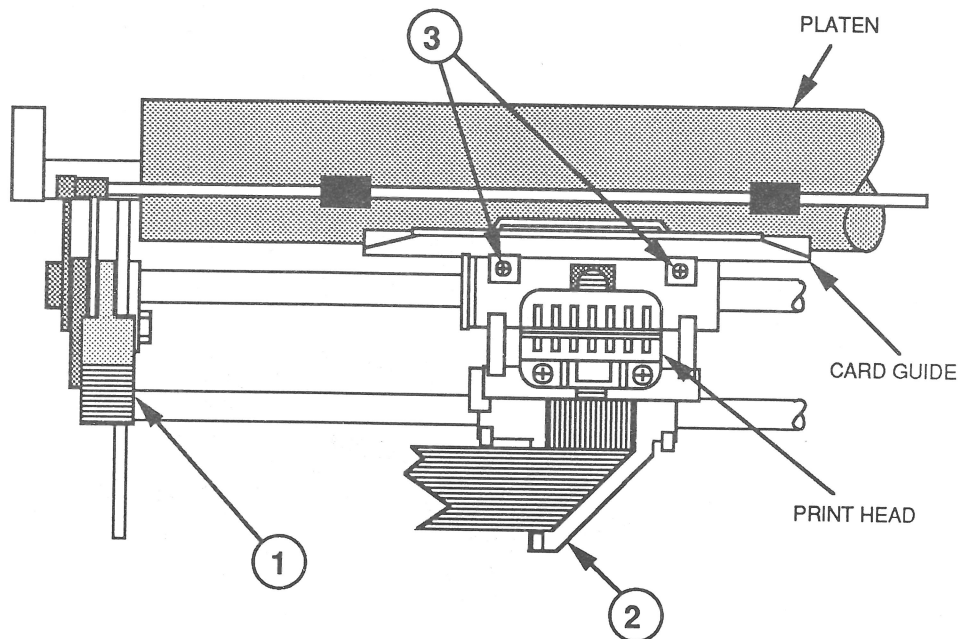

FIGURE 22
1. Push the paper thickness lever (Figure 22, #1) toward the back of the printer, to the number-one position.
3. Move the carrier assembly (Figure 22, #2) to the center of the printer.
4. Loosen the two set screws that hold the card guide (Figure 22, #3).